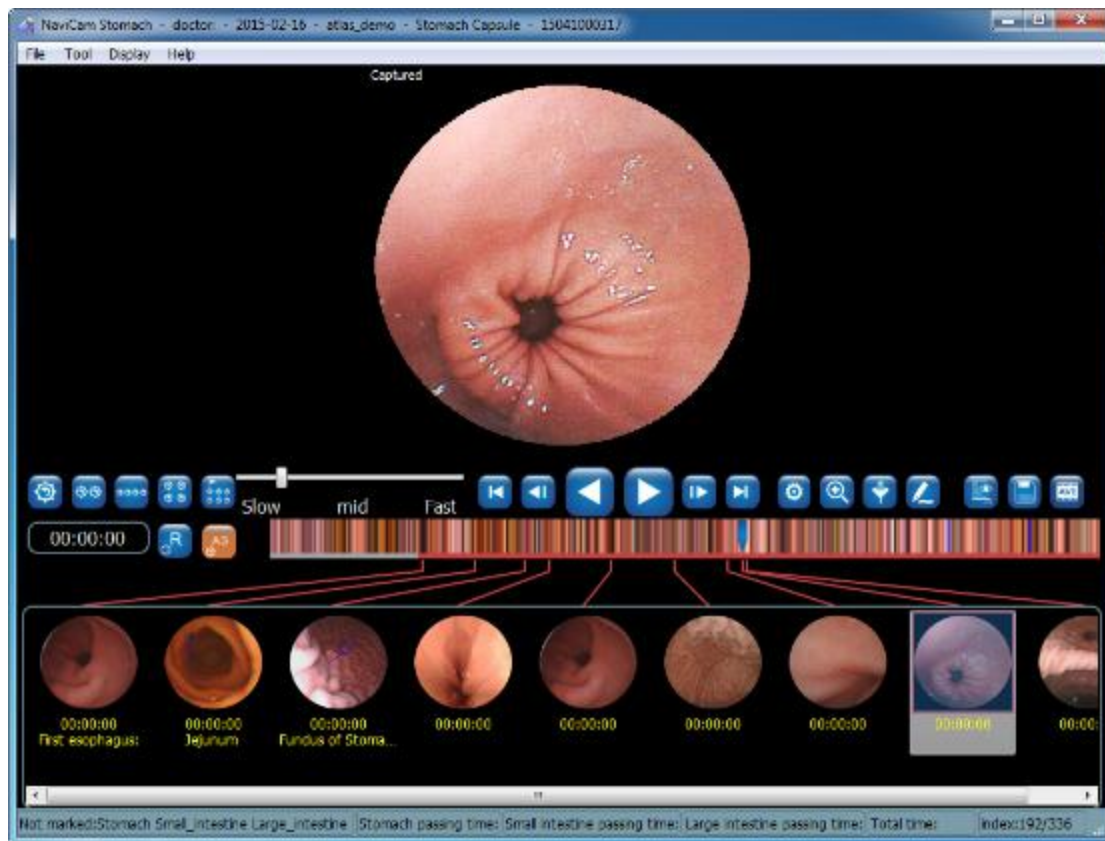

Figure 4-94 Similarity Browsing Mode
1. By clicking  and when the button icon changes to , you will access the **Similarity** Browsing Mode as shown in Figure 4-94. In this mode, the software displays only one image for similar images, thus reducing quantity of images to be browsed. Experiments show that quantity of images is cut about 50%.